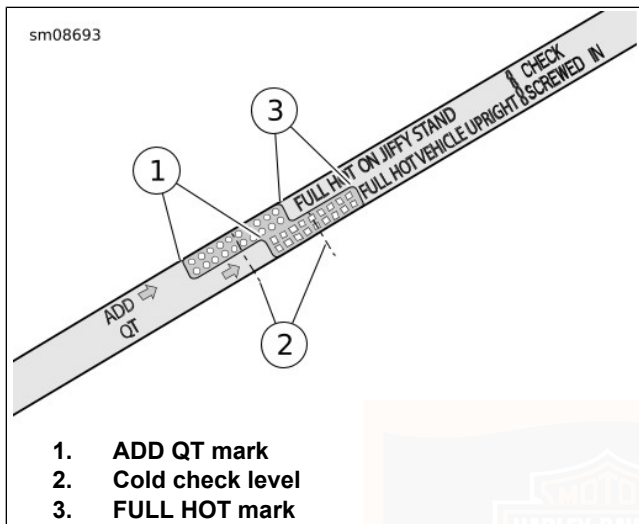

Figure 83. Engine Oil Dipstick
- e. See Figure 83. Check oil level. The correct cold oil level is midway (2) between the ADD QT (1) and FULL HOT (3) marks on the dipstick.
5. Check oil level. Add only enough to bring level midway between the ADD QT (1) and FULL HOT (3).
- e. See Figure 83. Check oil level. Oil level must register between the ADD QT and FULL HOT marks on the dipstick.